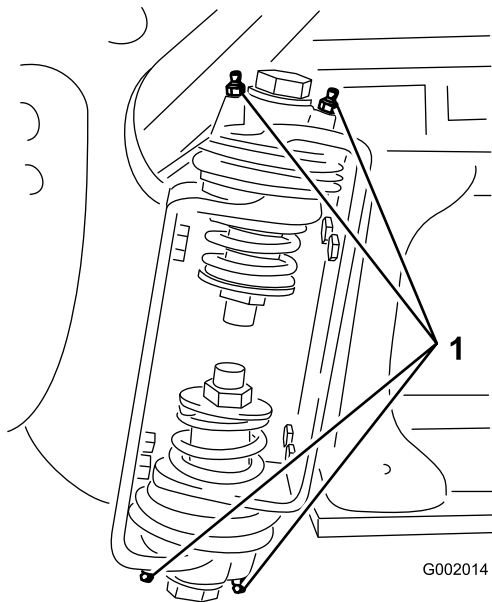

Figure 43
2. Pump grease into the bearing or bushing at each fitting Figure 43.